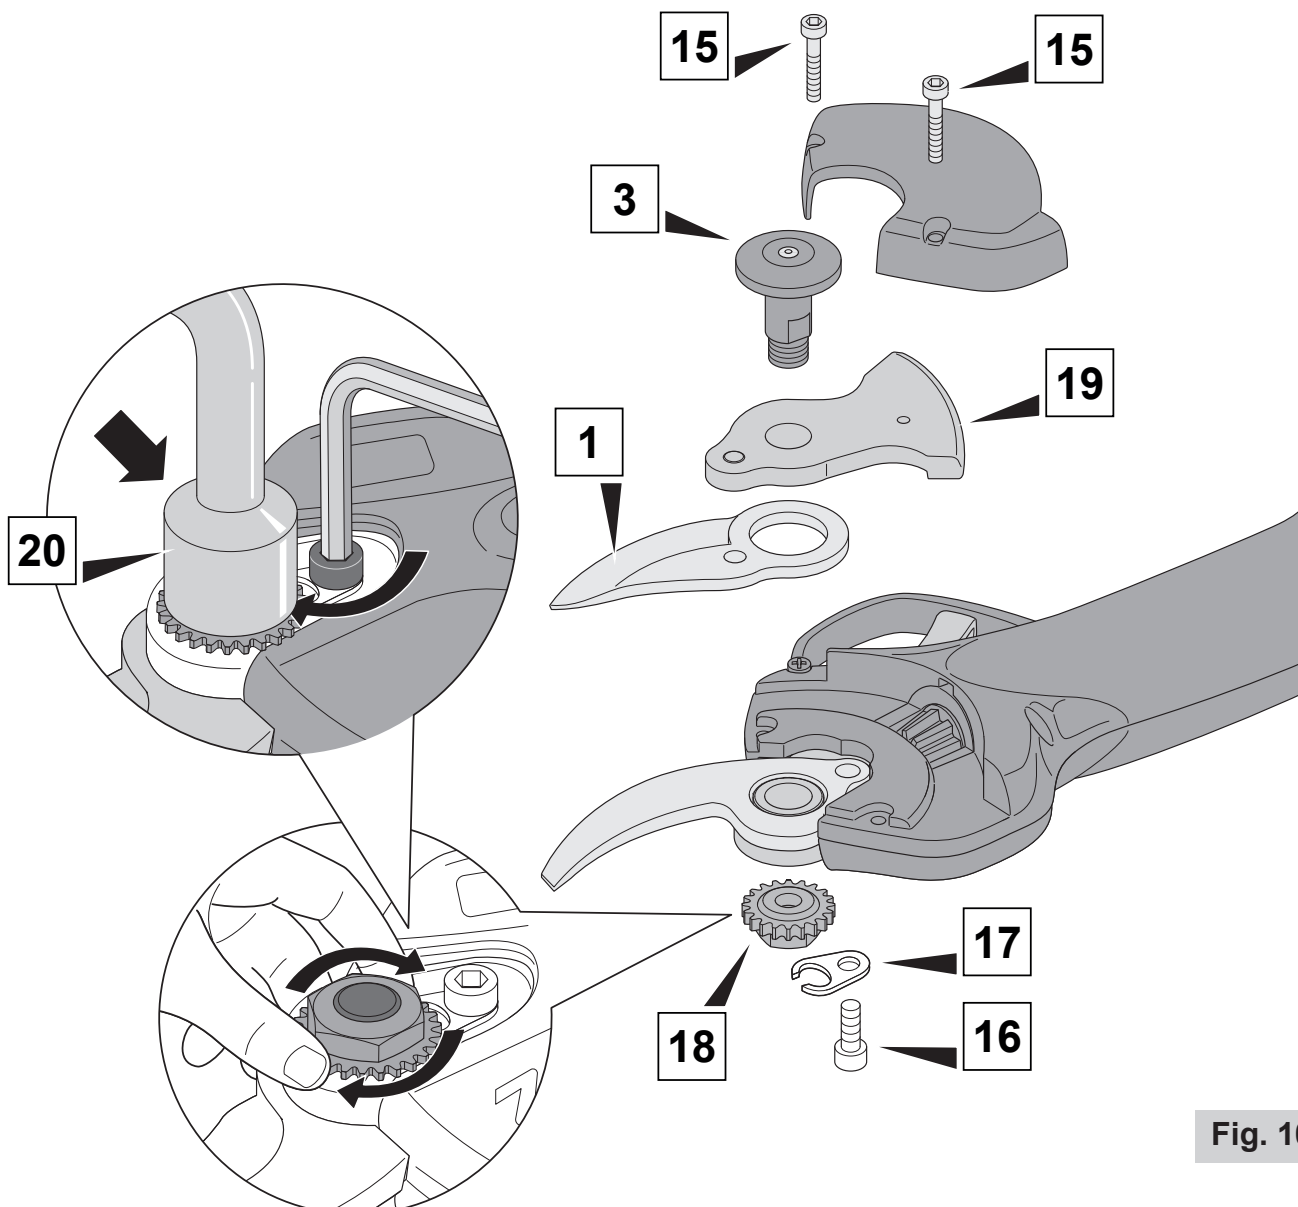

Fig. 10
- Loosen the screws (15) (fig. 10) and remove the protective cover;
- Using the Allen key (20) supplied with the kit, loosen the screw (16) of the stopper (17);
- Unscrew the blade nut (18) and on the opposite side remove the pin (3);
- Separate the blade (1) from the rack (19);
- Replace the blade (1) with a new one
- lubricate the pin (3) and the blade (1)
- Grease the rack (19)